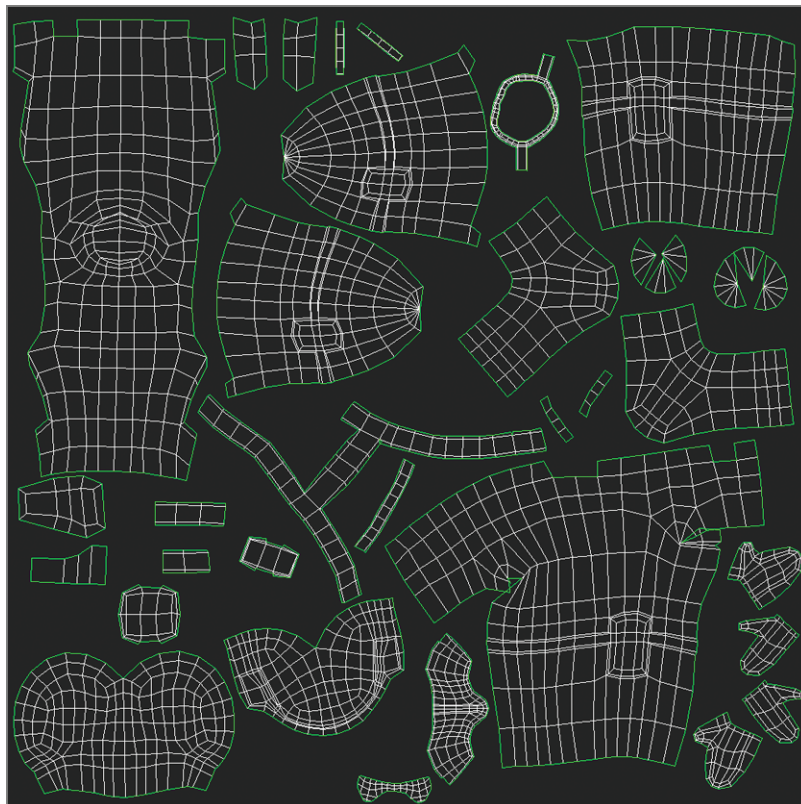

FIGURE 11.31 The layout of the UV rendered image can vary.
4. Click the Render UV Template button to create an image of your UVs, as shown in the Render Map dialog box. Remember, the layout of the UV rendered image can vary, as shown in Figure 11.31.